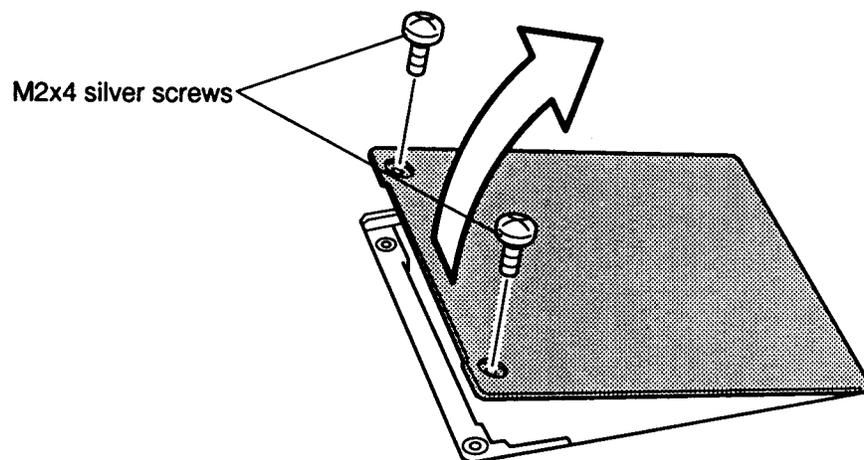

Figure 4-4 Removing the memory module socket cover
To remove an optional memory module from the T2100/T2105 Series computer, follow the steps below and refer to Figures 4-4 and 4-5.
4. Secure the **two M2x4 silver screws** (Figure 4-4).